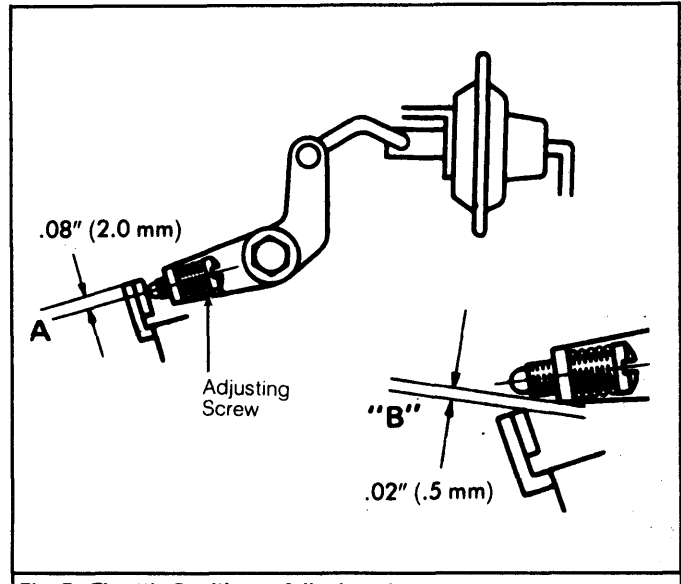

Fig. 7: Throttle Positioner Adjustment
**1978-79 California & High Altitude Models** - 1) To operate properly, the throttle positioner diaphragm, spring, and vacuum hose must be in good condition. Check links and levers for freedom of movement. 2) Primary throttle valve angle should be 15-16 degrees when throttle positioner rod contacts throttle lever tab. This should provide setting speeds of 1300-1500 RPM (1100-1300 RPM for automatic transmission equipped models). If adjustment is required, turn adjusting screw. See Fig. 7.